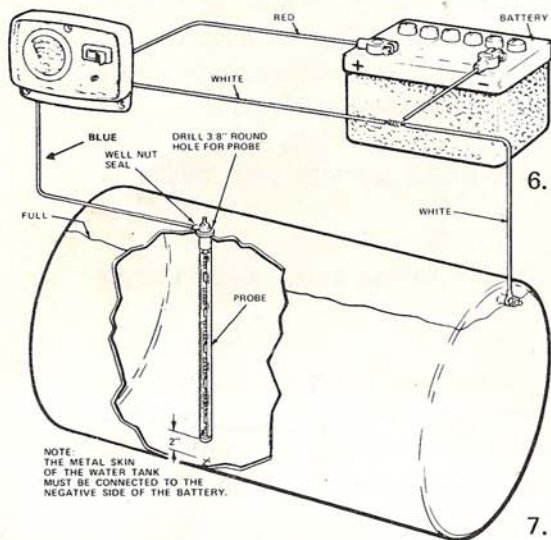
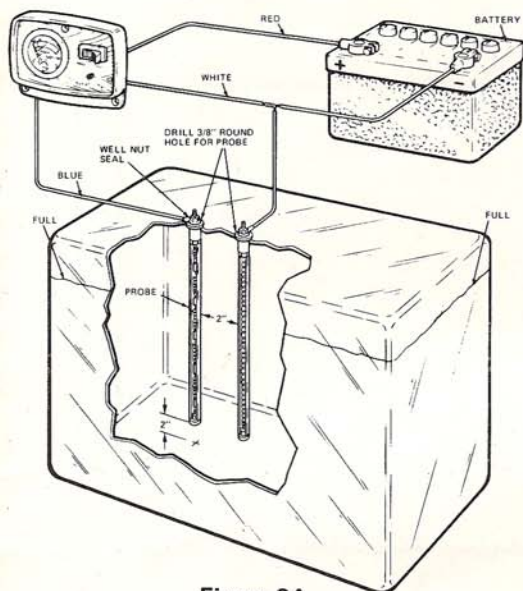
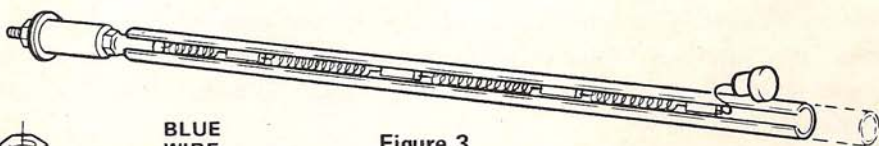

Figure 2
Figure 2A
Figure 3
2. Drill a 3/8" round hole in the top (maximum depth) of the water tank (maximum diameter of hole must not exceed 13/32") see Figure 2.
4. Remove the resistor and spring arrangement from plastic rod (see Figure 3), and cut the plastic rod so that it is 2" shorter than the maximum inside depth of the tank (see Figure 2).
2. Drill two 3/8" round holes approximately 2" apart in the top of the water tank (the maximum diameter of the holes must not exceed 13/32"). See Figure 2A.
4. Remove the resistor and spring arrangement from both plastic rods (see Figure 3) and cut the plastic rods so that they are 2" shorter than the maximum inside depth of the tank (see Figure 2A).
6. Now, insert the probe with the resistors and springs in it into one of the 3/8" holes in the top of the tank. Now, connect the BLUE wire from the PD-324P indicator unit to this probe (see Figure 2A) and tighten down with the nut provided (Figure 4).